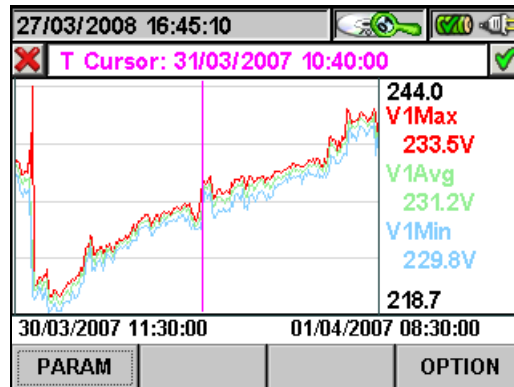

Fig. 118: Recording graph
- The **ENTER** key (or the smart icon  on the display) confirms the selection previously made and displays the graph of the selected parameter (Fig. 118).